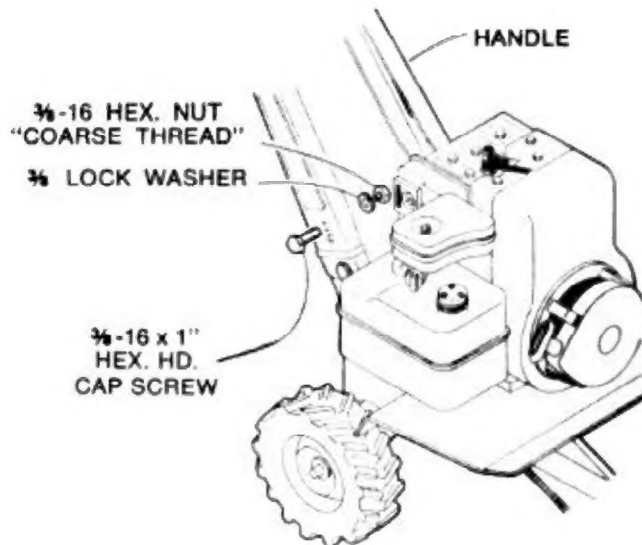

FIG. 1
2. Attach the handle to the handle brackets, Fig. 1. Position handle over brackets and secure, using four (4):  $\frac{3}{8}$ -16 x 1" hex. hd. cap screws\*,  $\frac{3}{8}$  lock washers\* and  $\frac{3}{8}$ -16 hex. nuts\*.